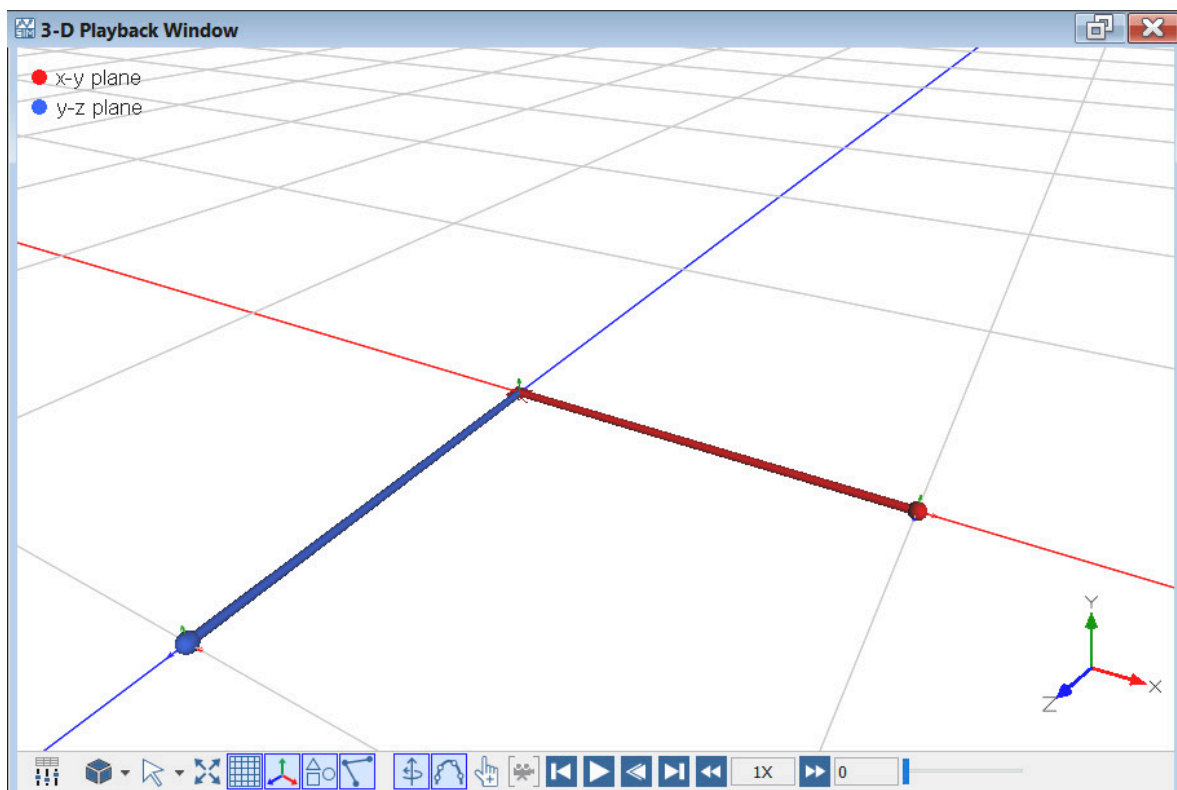

Figure 15: Mathematical pendulum simulation
- 3) Convert your model so that the pendulum swings in a different direction. As depicted in Fig. 15.